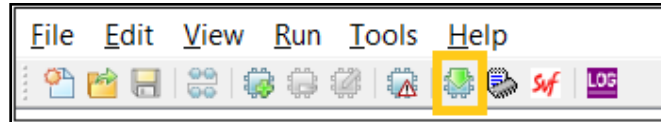

Figure 7.9. Program Device Toolbar Icon
- Click on the program device toolbar icon as shown in Figure 7.9.